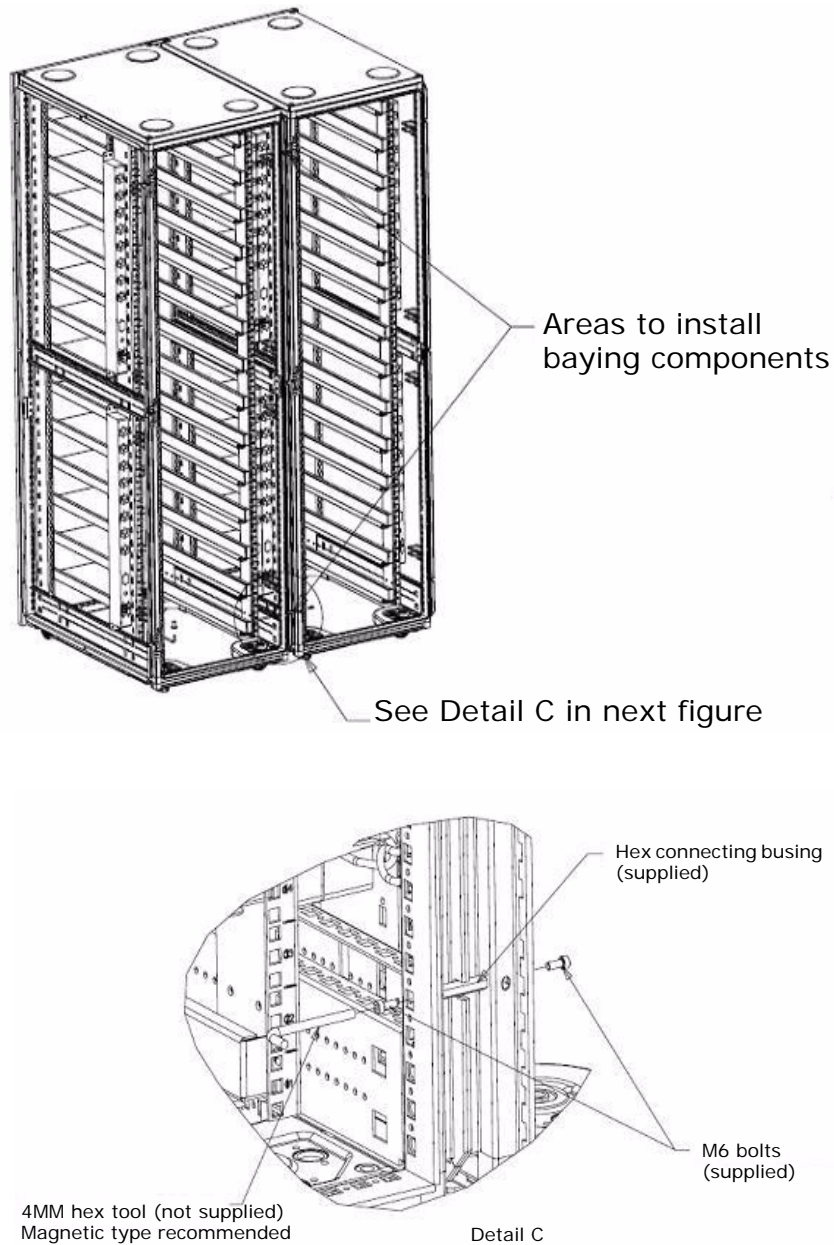

Figure 3-29: Baying Kit
2. Look for a common notch in frames where the baying connection will be made (one at bottom and one at the top). See Figure 3-29.